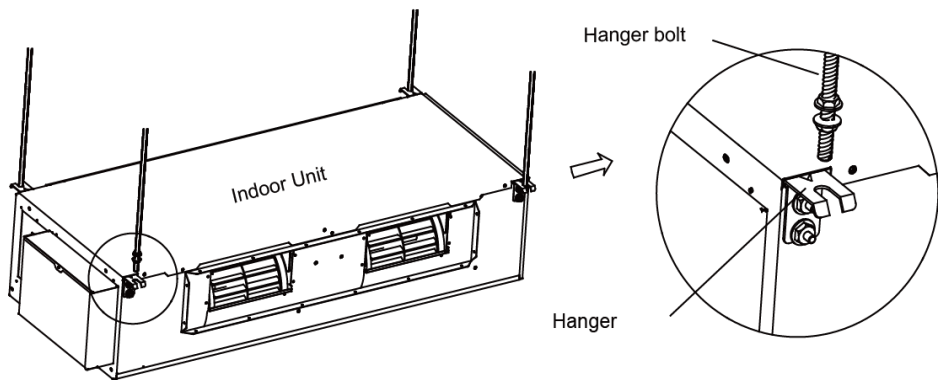

Fig.4.4
- (3). Install the hanger to the unit (Fig. 4.4).